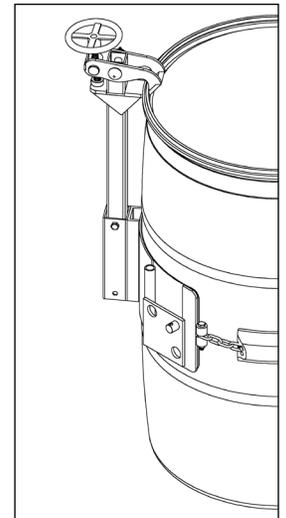

Figure 2.3
- The **Top Rim Clamp** (Kit # 4556-P) grips the upper rim of your drum to prevent it from slipping through the drum holder (see figure 2.3). You can use the Top Rim Clamp with a 55-gallon (210 liter) plastic, steel or fiber drum with suitable top rim.